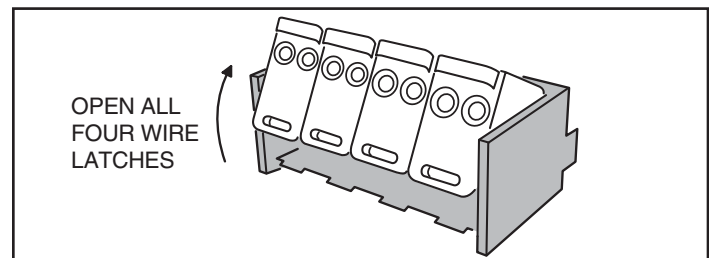

Figure 2. Open the Connector Wire Latches
**STEP 3** Open the four clear plastic wire latches on the connector. See Figure 2.